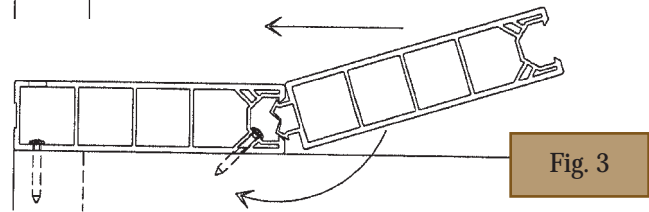

Fig. 3
Step 3 Secure opposing edge of plank to joist as shown, with one screw at the intersection of each stringer. Make sure to start screw tip in the locating groove. Maintain 45-degree angle when driving screws. (Fig. 3)
Step 4 Cut next deck plank to desired length. Slide tongue under top lip and snap into place. (Fig. 3)